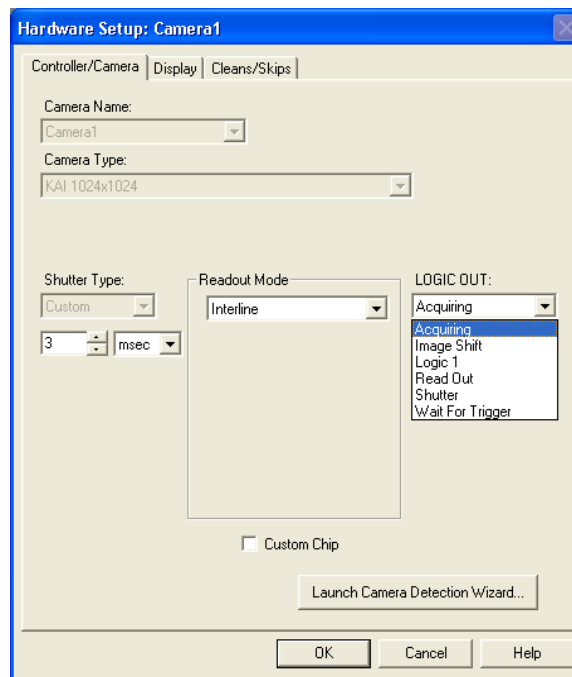

Figure 38. Hardware Setup: Controller/ Camera tab
2. Open the **Setup|Hardware|Hardware Setup** dialog. The screen should resemble Figure 38, which shows the setup for a KAI 1024x1024 interline camera.